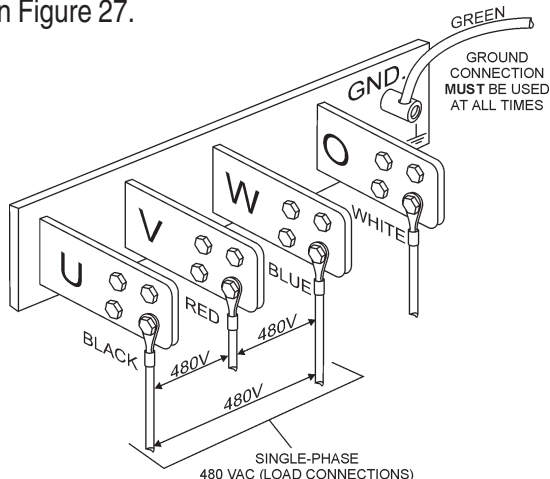

Figure 27. UVW Terminal Lugs 1Ø-480V Connections
2. Connect the load wires to the UVW terminals as shown in Figure 27.